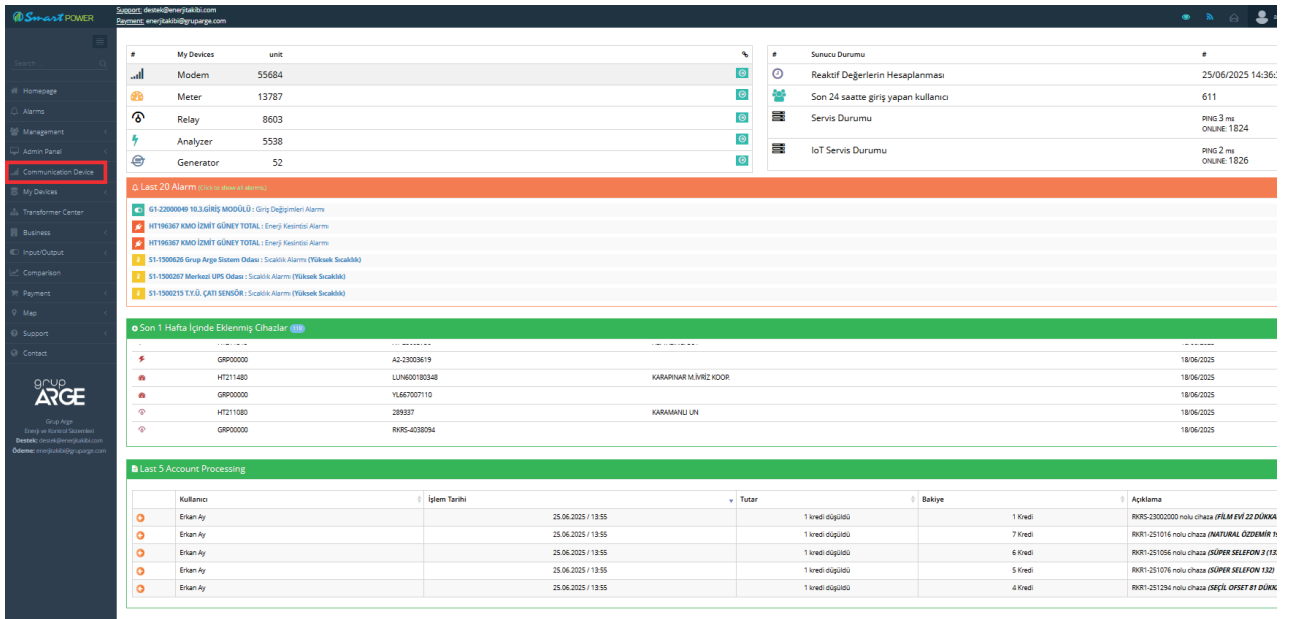

Figure 5.3
5. To add a modem to the system, click the "Modem" menu located on the left side of the page. (Figure 5.3)